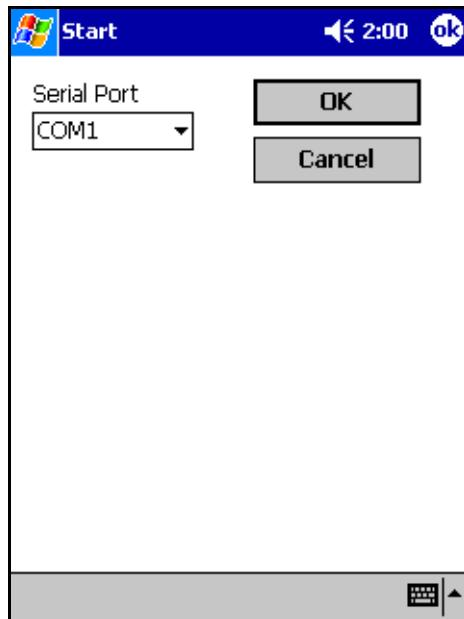

Figure 3-3. *iCFR Serial Port Selection Menu.*
- 5 The first time the program runs, it will ask for the location of the *iCFR* as in Figure 3-3 below.